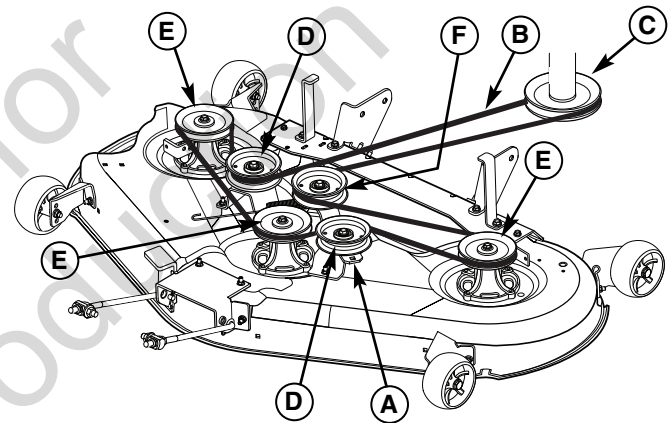

Figure 40. Mower Belt Routing
3. Insert ratchet into 3/8" (9.5 mm) square hole in idler pulley arm (A, Figure 40) and pull to release belt tension.
4. Remove the mower drive belt (B) from the engine drive pulley (C).
6. Install the new mower belt as shown in Figure 40.